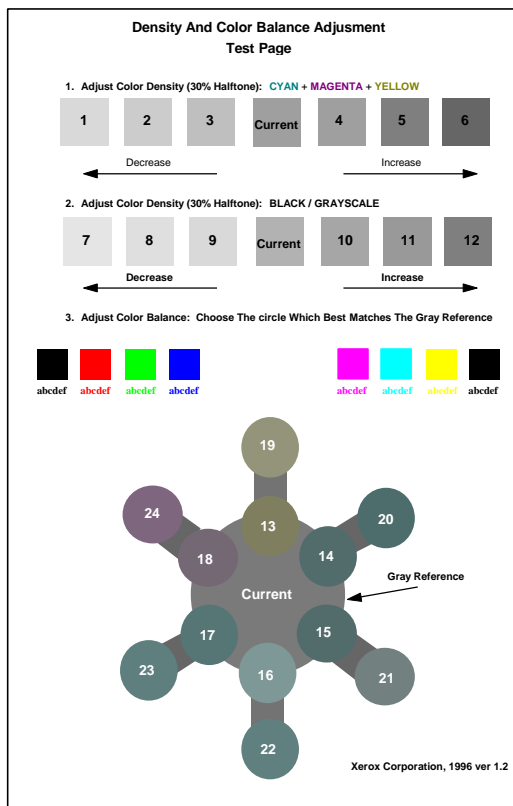

Figure 1. Density and Color Balance Test Pattern
1. (Figure 1): Examine the existing density and color balance with the customer.